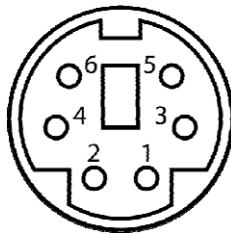

Figure 3-27: PS/2 Pinout and Configuration
- CN Pinouts:** See **Figure 3-27** and **Table 3-28**